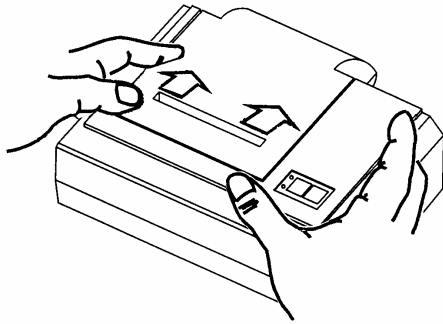
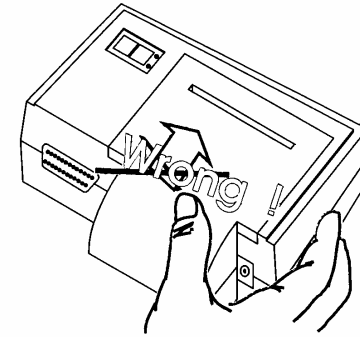

Figure 2-2
Figure 2-3
1. push the removable upper cover plate forward till its off the printer like figure 2-2 below, figure 2-3 is not correct.